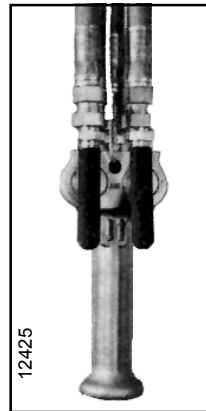

Figure 3-1.
3-1. GENERAL. Operation of **BUDGIT** Series 6000 Air Hoists is controlled by a pendant throttle control. The Pendant Throttle Control has a convenient lever type control valve handle (Figure 3-1) suspended from the control manifold.
- Depress throttle valve lever marked ↑ to raise load. See Figure 3-1.